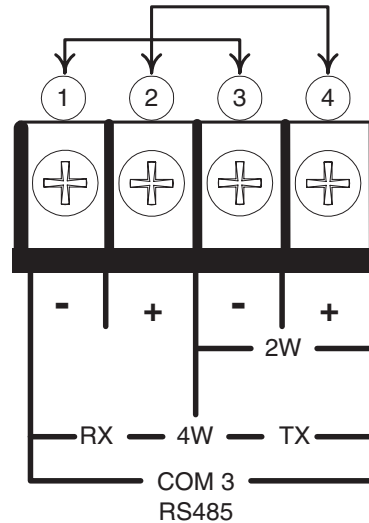

Figure 6-6 RS-485 4-Wire Testing
3. On the rear of the unit, connect a jumper from terminal 1 to terminal 3 and from terminal 2 to terminal 4. See Figure 6-6 for diagram.